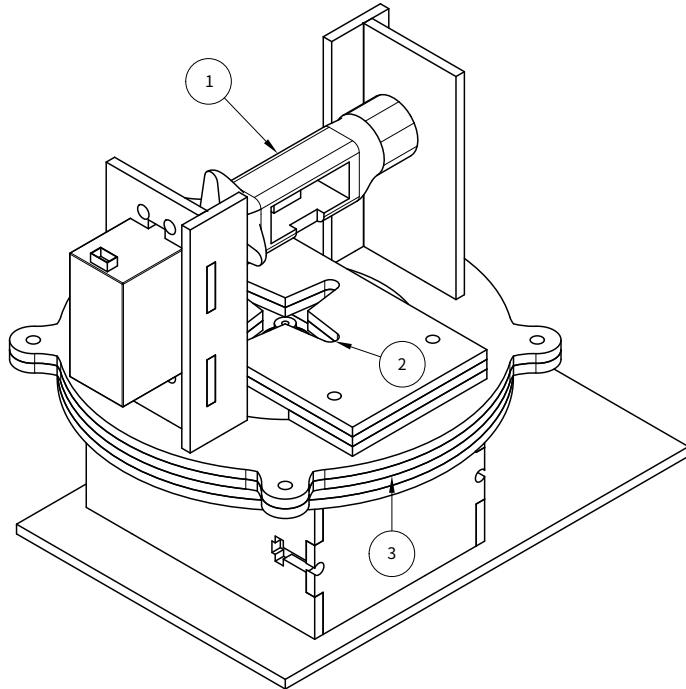

Figure 1: Wireframe render of pan-tilt mechanism. ① - IR sensor carrier, ② - Pan servo horn interface, ③ - Delrin slip rings
For mechanical design, we chose to exceed the necessary complexity required for a simple pan tilt, mostly for the satisfaction of "overkill". A render of the mechanism is shown in Figure 1. For ease of fabrication, it was primarily lasercut 1/8th inch hardboard, with lasercut delrin bushing rings [③] and a 3D printed carrier for the IR distance sensor [①]. The pan servo horn [②] bears no axial load, and is only constrained rotationally. Additionally, the bending moment on the tilt servo is mitigated with a delrin pin and steel bushings on the opposite side. This design also keeps the IR sensor in line with both axes of rotation, minimizing the need for corrections from an offset projection. More specifically, when translating from spherical to cartesian coordinates, the origin of both coordinate systems are the same, simplifying the transformation.